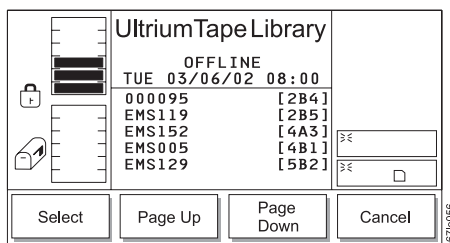

Figure 4-94. Export List Dialog
4. Press the button below the **OK** softkey. The Export List Dialog displays a list of tape cartridges that are present in the library (see Figure 4-94). The cartridges are listed by their volume serial numbers (VOLSERs) and physical addresses.